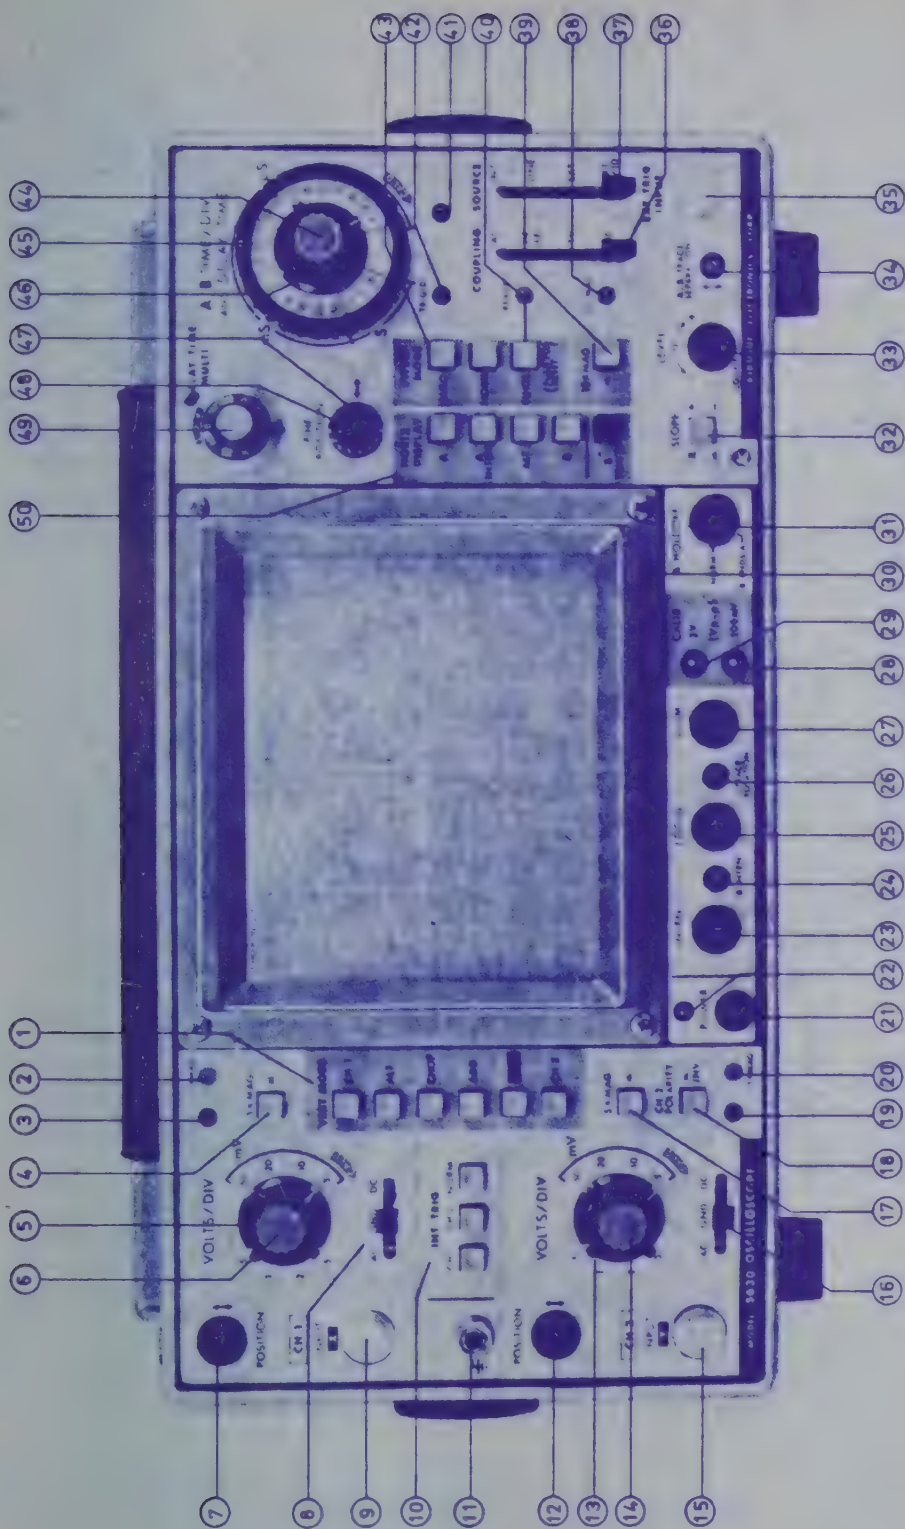

Figure 1. Front panel of the oscilloscope
4.1 Basic Operation (Refer to Figure 1.)